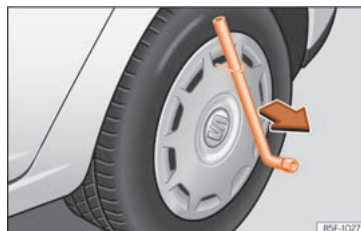

Fig. 74 Remove the wheel cover.
- Remove the wheel cover using the wire hook » **Fig. 74.**